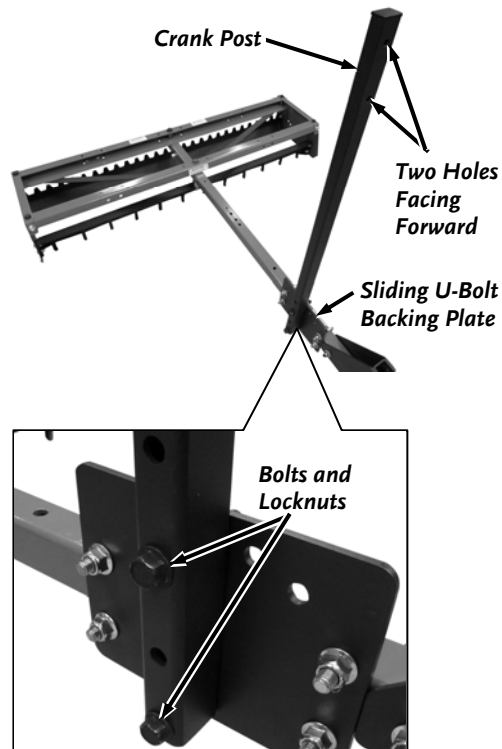

Figure 16
17. Install the Crank Post onto the Sliding U-Bolt Backing Plate with two 3/8-16 x 2-1/2" flange Bolts and Locknuts using two 9/16" Wrenches (**Figure 16**).